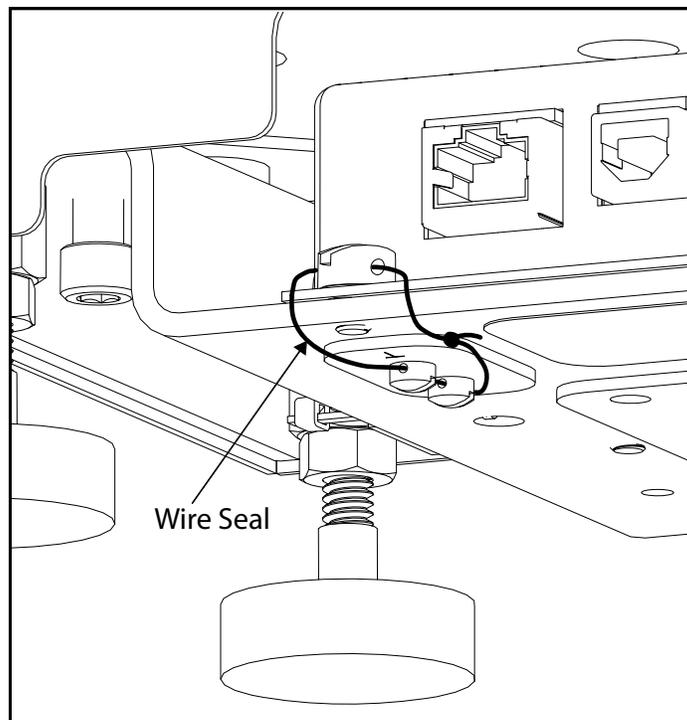

Figure 6-7. Wire Seal Location
2. Guide sealing wire through the screws over and under the sealing plate (see Figure 6-7).